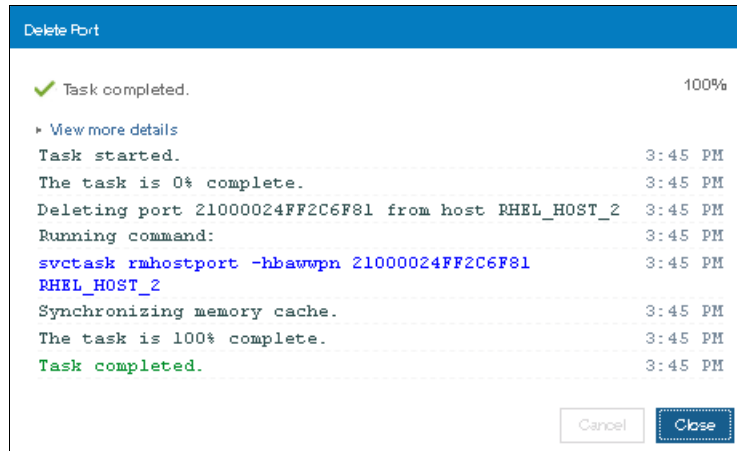

Figure 8-40 Port deletion task completed
4. Click **Delete**. A window indicating port deletion task completed will be shown as in Figure 8-40 on page 373.